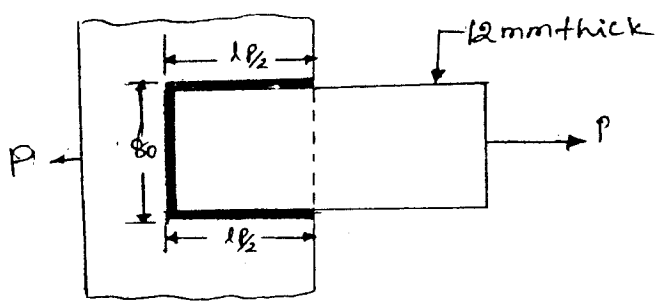

Fig.8(a)
- 8 a. A 80 mm wide and 12 mm thick plate subjected to axial tensile load is welded to a vertical support by a single transverse fillet weld and a double parallel fillet weld as shown in fig. 8(a). The maximum tensile and shear stresses in the weld are 100 MPa and 70 MPa respectively. Find the length of each parallel weld, if the joint is subjected to i) Static loading and ii) Fatigue loading. (10 Marks)